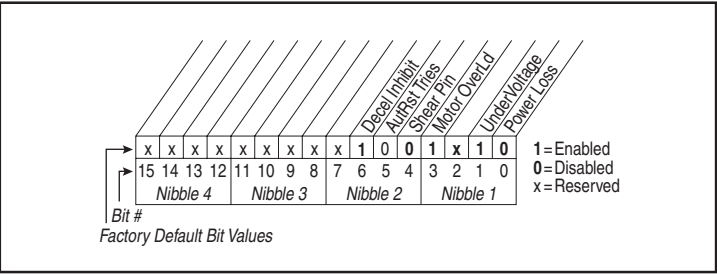

Figure 11.29 – Fault Config 1 (238)
**Range:** See figure 11.29
**Default:** See figure 11.29
Enables/disables annunciation of the faults shown in figure 11.29.